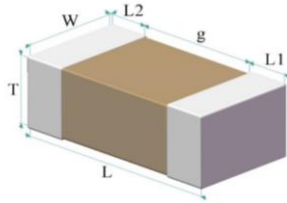

Fig.1 Structure & Dimension
| 2 | Size Code | See Fig.1 and ② Size Code | | Measuring by gages which precision is not less than 0.01 mm. | |